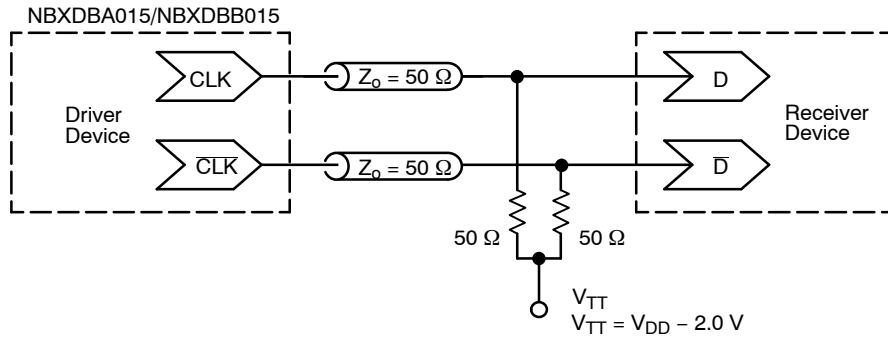

Figure 5. Typical Termination for Output Driver and Device Evaluation
2. Measurement taken with outputs terminated with 50 ohm to $V_{DD}-2\text{ V}$. See Figure 5.
3. Measurement taken with outputs terminated with 50 ohm to $V_{DD}-2 \text{ V}$. See Figure 5.